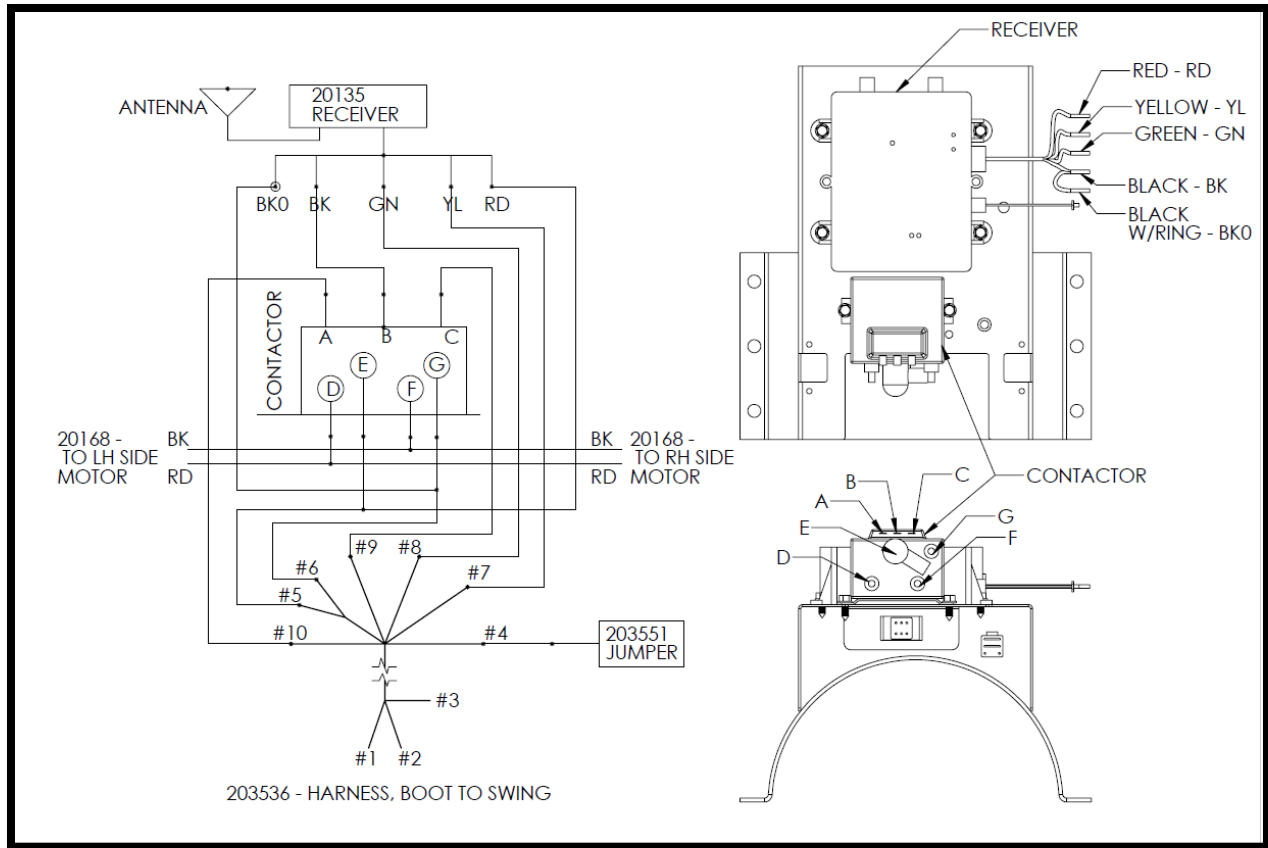

Figure 22:Wiring Schematic for E-winch Receiver Mount
- g. Attach wires of Receiver & Harness (203536) to contactor in correct order as shown in Figure 22:
- ii. Attach small black wire (BK) of Receiver to terminal 'B' of Contactor.
- iv. Attach small grey wire (END #8) of Harness (203536) to green wire (GN) of Receiver.
- v. Attach small black wire (END #7) of Harness (203536) to yellow wire (YL) of Receiver.
- vii. Attach small red wire (RD) of Receiver and red hose (END #5) from Harness (203536) together onto input terminal 'E' of contactor, attach with a washer and bolt at the end by using ratchet with ½" socket to secure it.